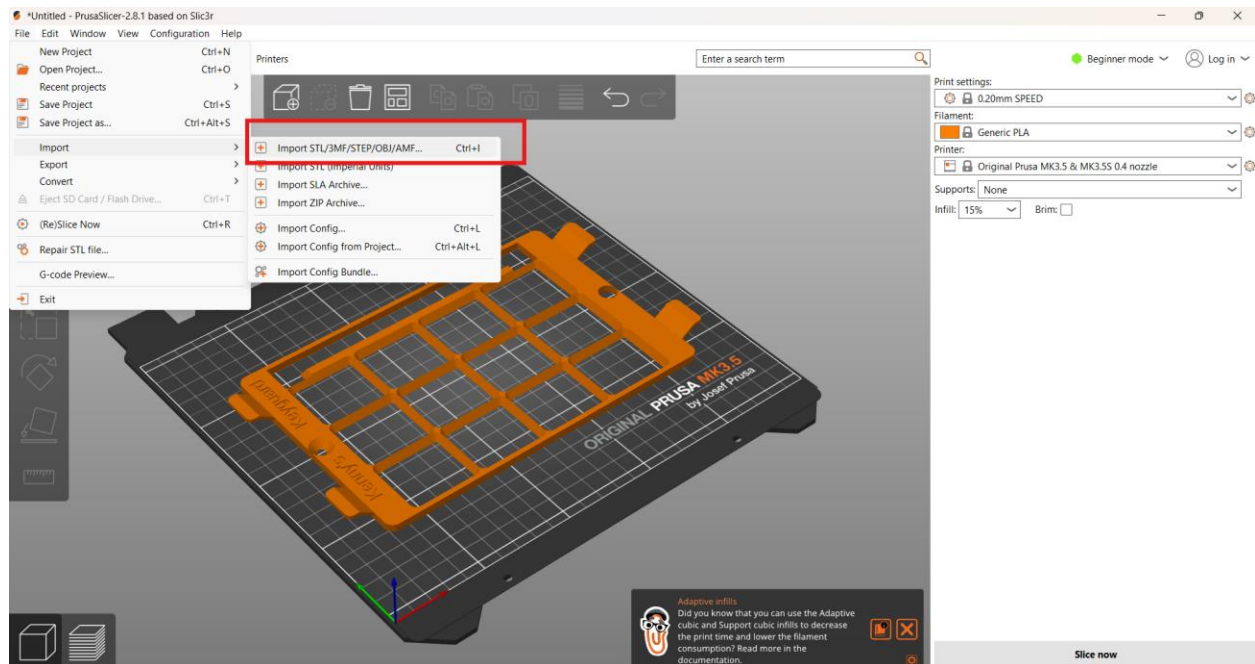

Figure 1. Button to Import
- 2.) Open PrusaSlicer and click the “File...” button (see Figure 1), then select the device file from the downloads folder.